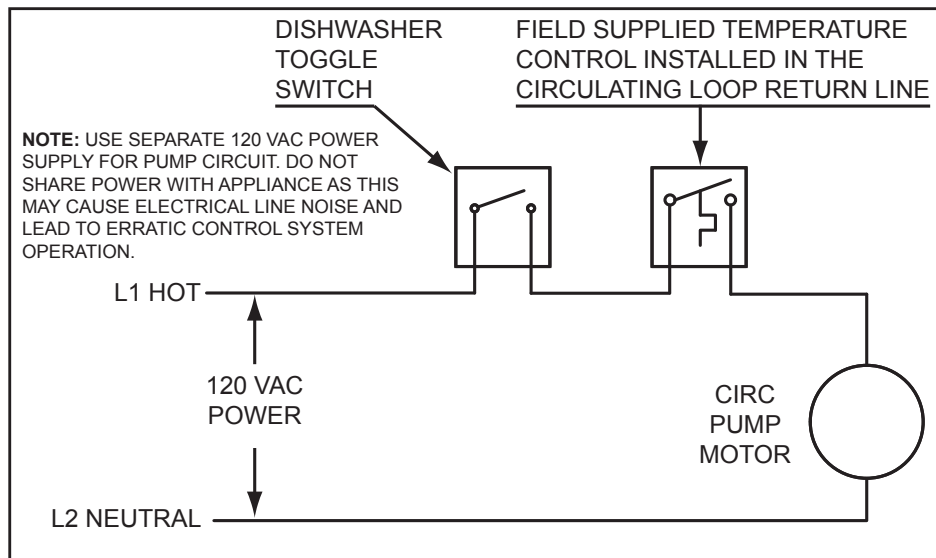

Figure 43. Circulating Pump Wiring Diagram - Dish-Washer Loop with Toggle Switch
7. If a pump is being installed in a recirculation loop between the water heater and a commercial dishwasher wire according to *Figure 43* (page 64).